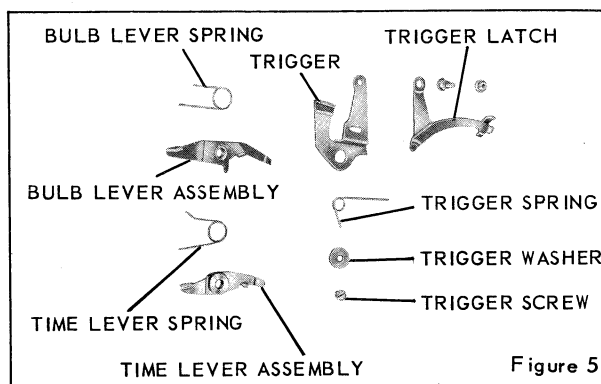

Figure 5
1. Speed control ring, with shutter in tripped position. Be sure the projecting lug on the BULB LEVER ASSEMBLY, figure 5, the studs on the retarding SECTOR WITH STUD, figure 6, and the PALLET BRACKET with stud assembly are resting against the inside edge of the speed control ring and are not underneath the ring.
CAUTION: Do not touch the TRIGGER LATCH, figure 5, as it may release the winding gear spring tension.
Trip the shutter and lightly hold the winding lever down around the central collar on the cover. As the shutter is tripped, the end of the latch should fall into the slot on the cover. If it does not, add more tension on the TRIGGER LATCH SPRING, figure 3. Check for a bind between the trigger latch and the TRIGGER, figure 5, at the point of attachment. The winding lever should contact the trigger latch, push the latch out of the slot in the cover, and open the shutter blades. After the shutter has been tripped, the latch should return to a position where it is resting on the ledge just above the small slot in the cover.
4. Lift up the loose end of the TRIGGER LATCH, figure 5, sufficiently to clear the COVER COMPLETE, figure 3. Move the loose end of the latch until it is clear of the CASE, figure 2.
5. TRIGGER SCREW, figure 5, TRIGGER SPRING, and TRIGGER WASHER.